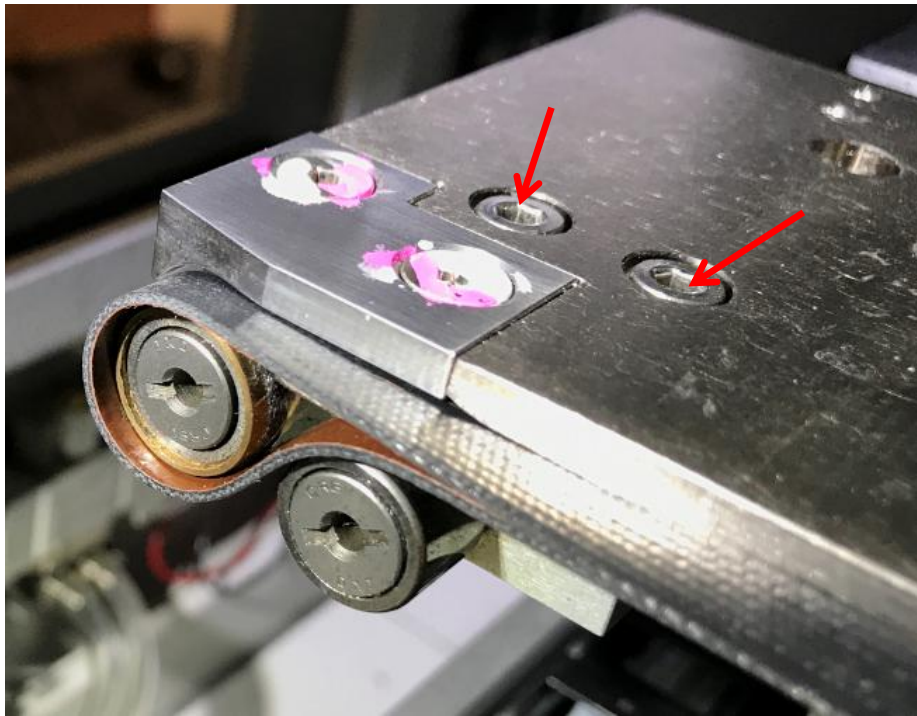

Figure 22 End Pulley Assembly
- d) Slightly loosen End Pulley assembly as below Figure 22